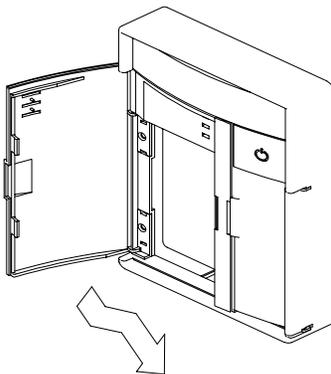

Figure 2.1.1.3
1. Open HDD door, press plastic locker trigger of tray downward to release tray handle.. See figure 2.1.1.1